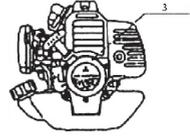

Fig. 15
- Periodically check the screws to ensure they are properly adjusted, and if they are loose, tighten them again. (Fig.15).